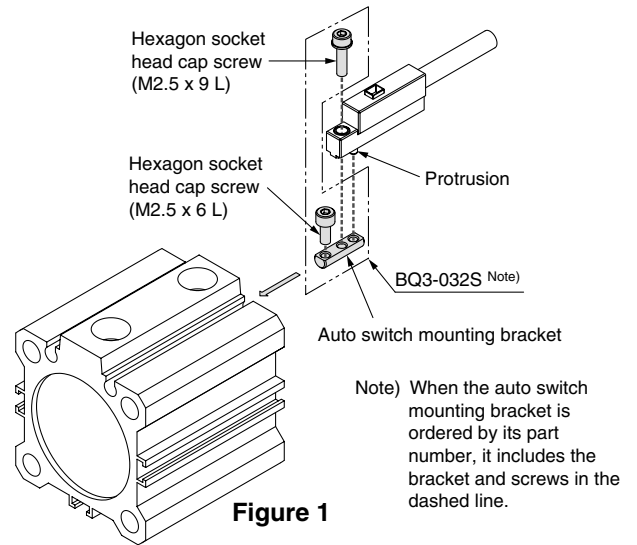
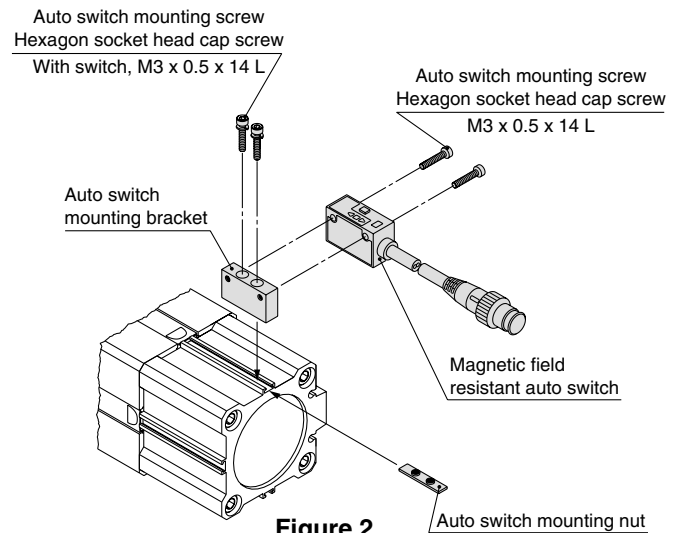

Figure 1
Figure 2
4. After reconfirming the detecting position, tighten the auto switch mounting screw to secure the auto switch mounting bracket and the auto switch. (Tightening torque should be 0.5 to 0.7 N·m.) (See Fig. 1 and Fig. 2.)
* Be aware that the D-P79WSE should be installed in the specified direction shown when installed to the auto switch mounting bracket. Be sure to mount it so that the soft resin mold surface is in contact with the auto switch mounting bracket. (See Fig. 2.)